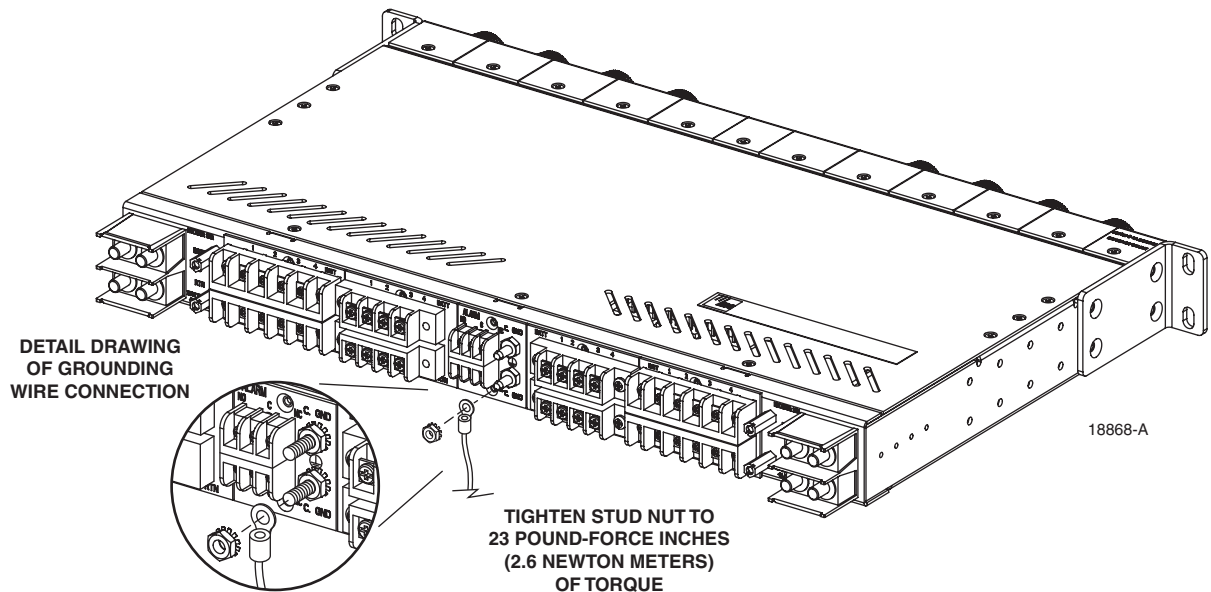

Figure 15. Chassis Ground Connections
6. Locate the C GND (chassis ground) studs at the rear of the panel as shown in Figure 15.